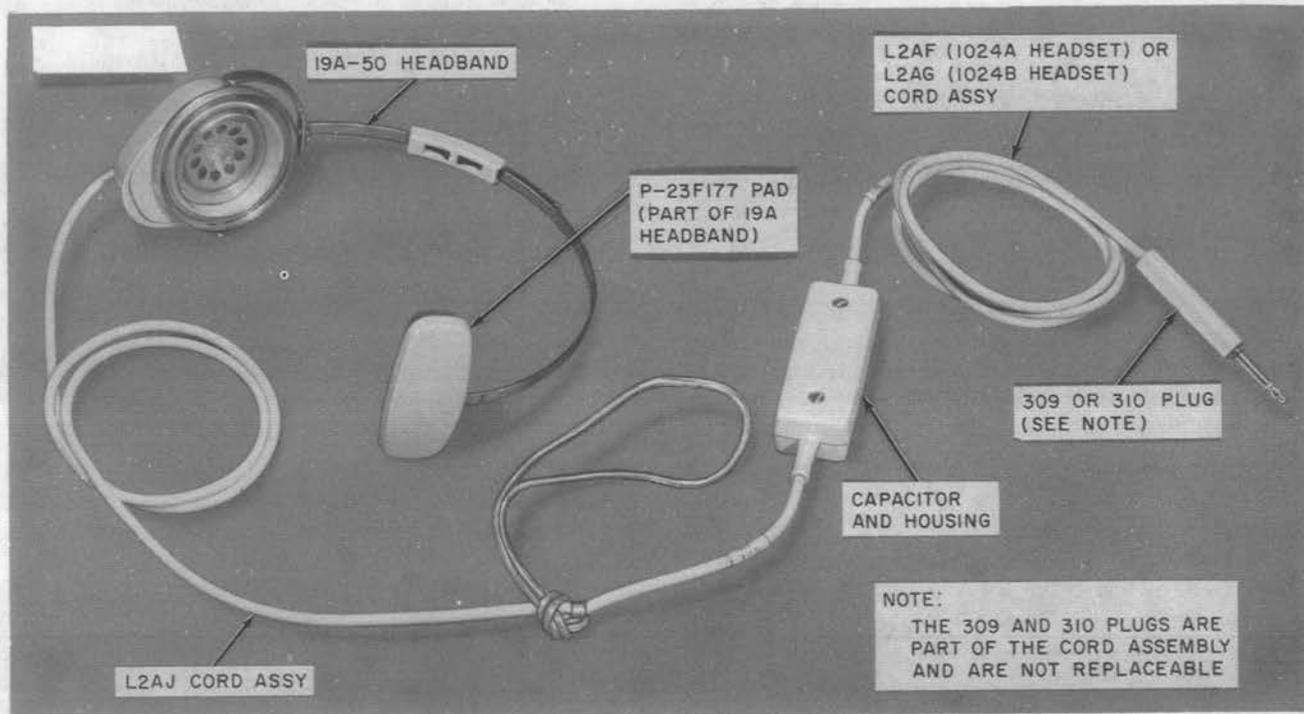

Fig. 2—1024A- and 1024B-Type Headsets
3.08 L2AF or L2AG Cord Assembly: Fig. 2—Disconnect the cord at the capacitor end as covered in 3.05. Substitute the new cord, and connect it as shown in Fig. 8. Reassemble parts in the reverse order of removal. Dress the leads as originally positioned.